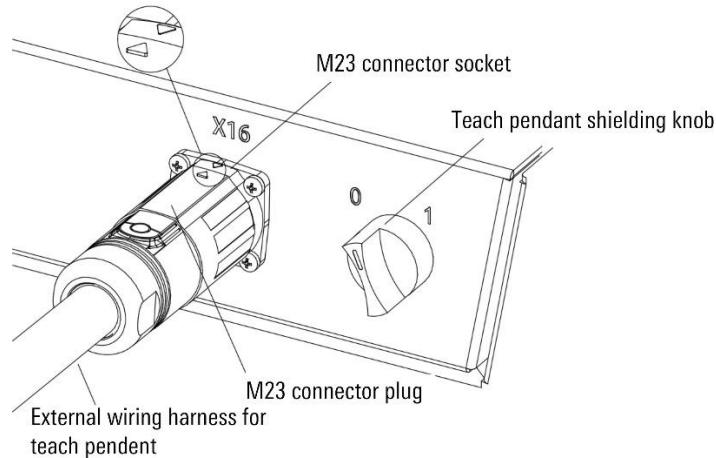
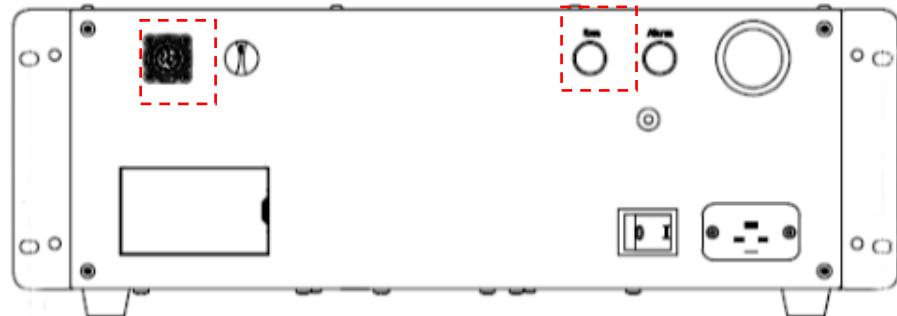

Figure 10-2 Teach pendant connection interface
Figure 10-5 Socket location on the inCube20/22 control cabinet
Step2. Align the triangular symbol of the connector plug with the triangular symbol of the connector socket (e.g. partial enlarged view of Figure 10-2), push the connector plug, and rotate 45° clockwise to make it with the connector socket, clamp. See the box in Figure 10-5 for the location of the socket.